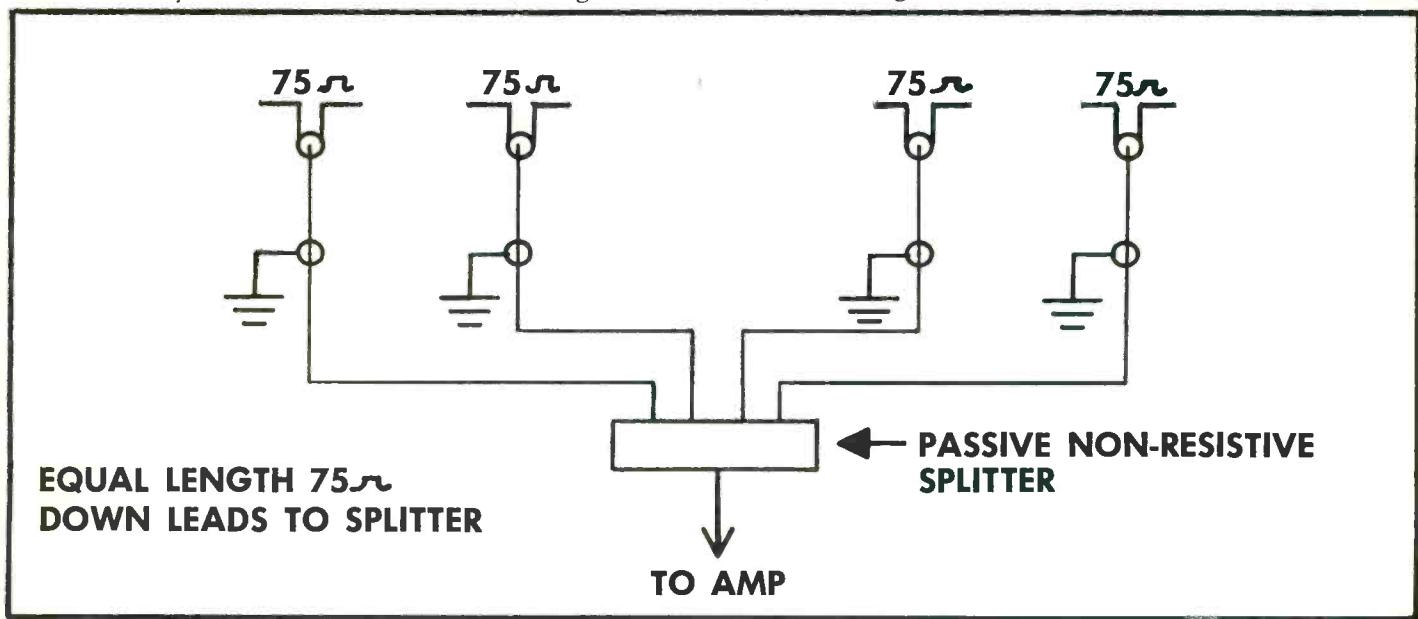

FIGURE 2
- 1 The array of Figure 2 may be represented schematically as shown below:
Likewise, in Figure 2, the directional coupler incorporates an impedance step-up transformer, 2/1 ratio, to match the two 72 ohm inputs to one 72 ohm output. An equivalent circuit can be drawn, as above, to demonstrate that 3 db gain is achieved when two generators are combined through this network.